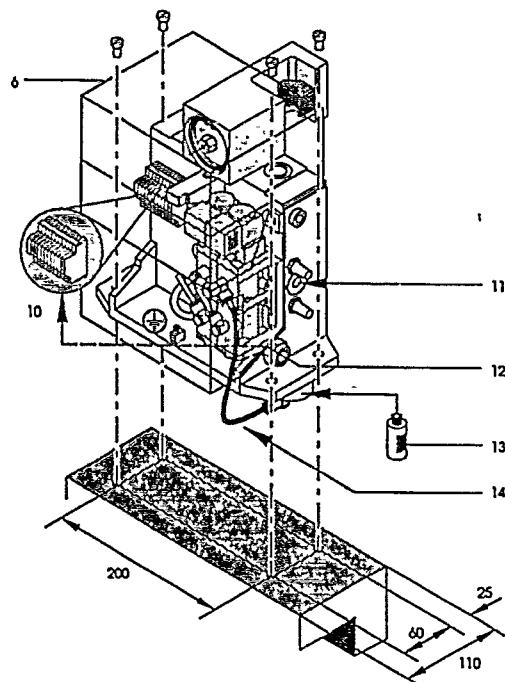

Fig.:4.1 Installation, pneumatic connection
Remove the TCS-6-LC from the packing case and fit silencer (13) and compressed air hose (14); refer to fig 4.1.
completely trouble-free operation can only be guaranteed when installed as shown in Fig 4.1 or 4.4
Remove the side attaching screws and then remove cover (6). The terminal block (10) is now accessible (Fig 4.1).
1. Connect earth to XPE-1 (refer to Fig 4.1).